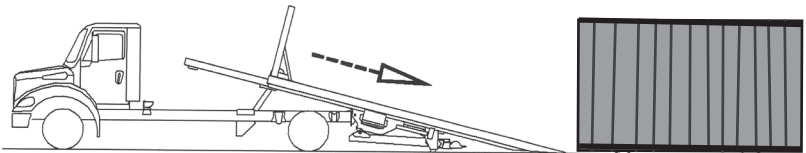

Figure 3.8
- (e) Slide the body rearward until it contacts the ground. See Figure 3.8.